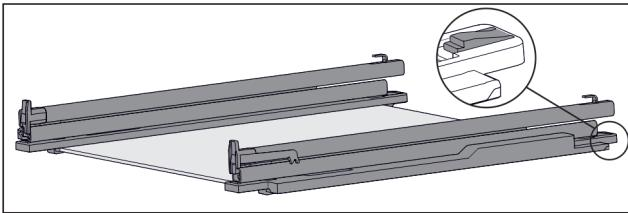

Fig. 107 Glass shelf with rails and retaining parts
- ▶ Press down retaining part at the rear (see Fig. 107) and simultaneously push rail back.